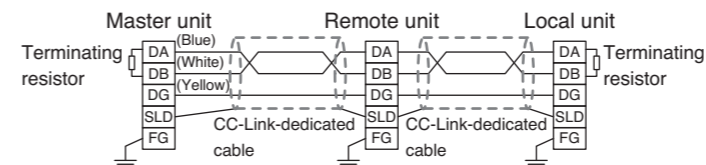

Figure 2
- (2) A bus termination is required at both ends of the CC-Link bus segment as shown in Figure 2.